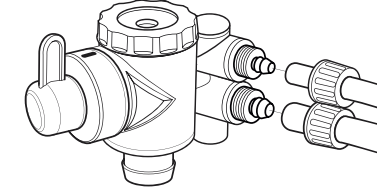

Figure 3.20 – Placing Fitting Nuts Over Tube Ends
8. Place the inlet and outlet fitting nuts over the ends of each tube. Make sure the threaded end of the nuts are facing the tube ends (see Figure 3.20).